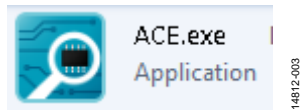

Figure 3. ACE.exe Shortcut Icon
1. Double-click the ACE shortcut (Figure 3) available under the `C:\Program Files (x86)\Analog Devices\ACE` directory.